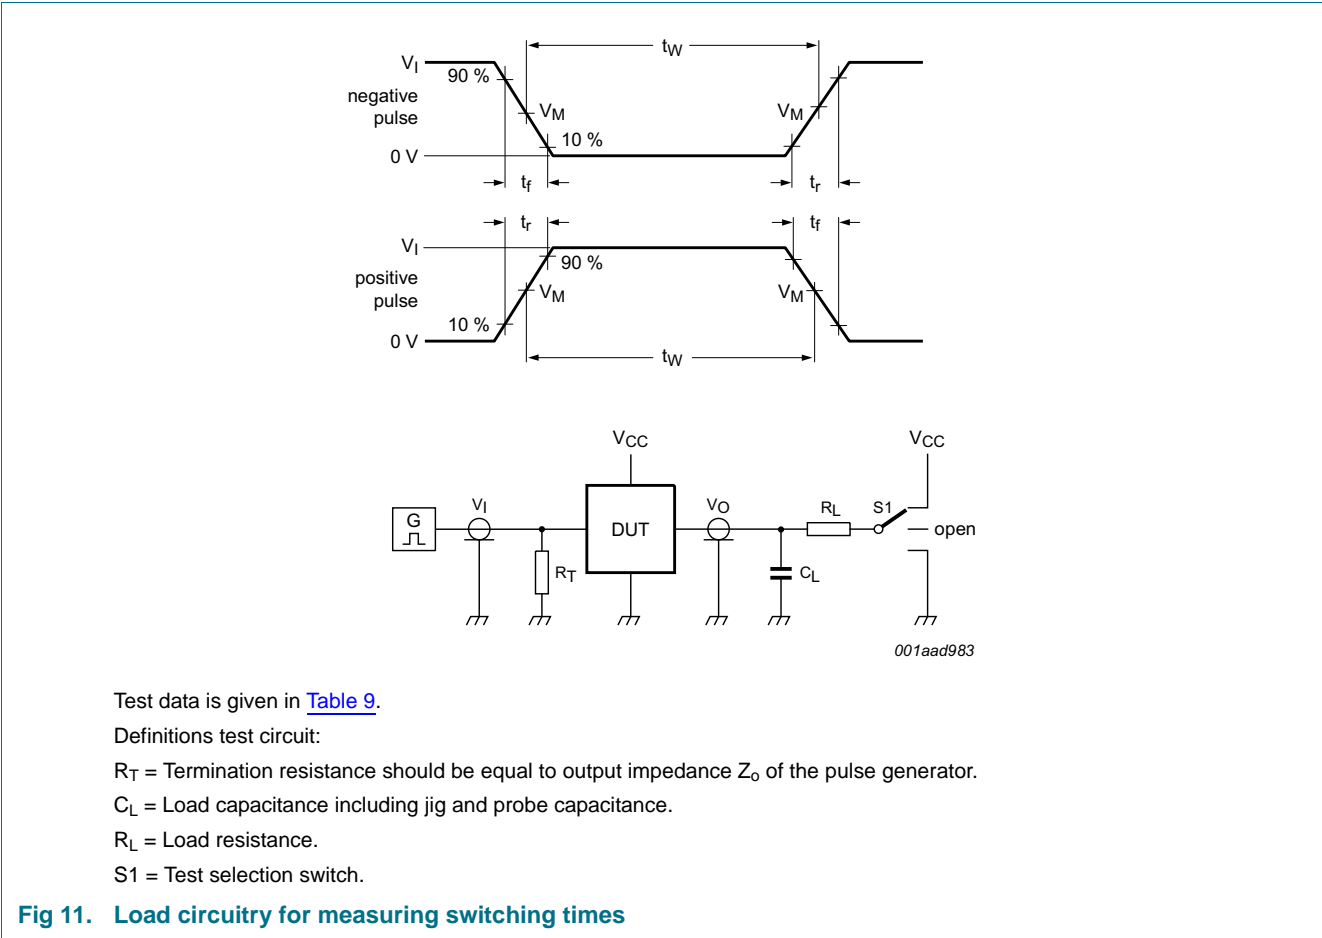

Fig 11. Load circuitry for measuring switching times
**Table 7. Dynamic characteristics ...continued**GND = 0 V;  $t_r = t_f = 6$  ns;  $C_L = 50$  pF; see Figure 11.
**Table 7.** Dynamic characteristics ...continuedGND = 0 V;  $t_r = t_f = 6$  ns;  $C_L = 50$  pF; see Figure 11.